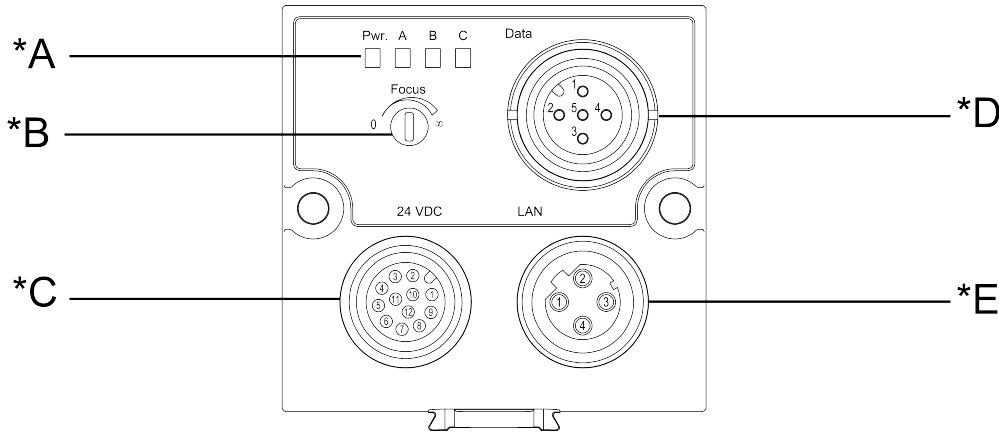

Fig. 7: Connectors ACR 300i
3. In the following window (see fig. 7) set the desired IP address of the PC and the sub-network data.